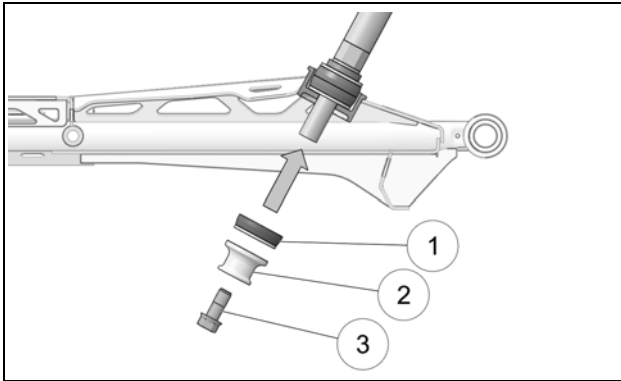

Figure 10
- Mount the rubber damper (1) and aluminium spacer (2) on Strut Rod. The rubber side of the damper must face the frame. The larger diameter on the spacer must be mounted against the rubber damper. These parts must be assembled in the right direction and in the correct order. Secure the Strut Rod with bolt (3). Tighten assembly to 50 N•m (37 lb•ft) of torque. See Figure 10.